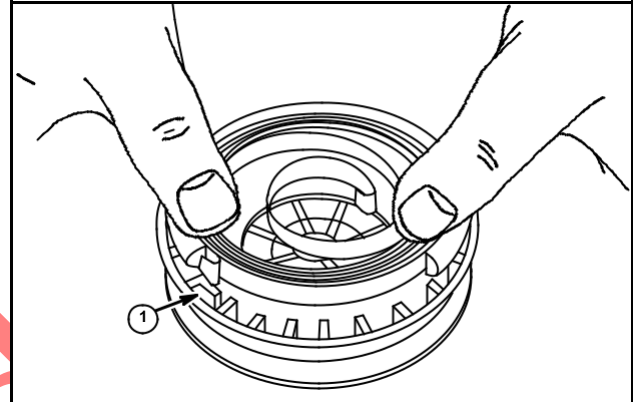

Fig. 30
7. Place spring and retainer on pulley with hook over spring notch (1) in pulley, Fig. 30.